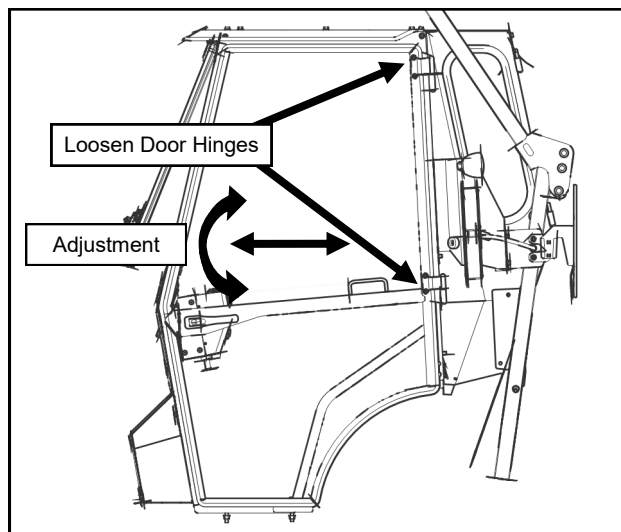

Fig. 28.2a (Door Hinge Adjustment)
- 28.2** Loosen the door hinges to allow for adjustment later. Hang the left door on the hinges. While lifting up and forward on the door handle, line up the door latch with the striker pin and carefully attempt to latch. You should be able to hear 2 clicks as you slowly engage the latch on the pin. If the latch is too far forward or back to latch on the pin, adjust as shown in figures 28.2a and b. Then retighten and latch.